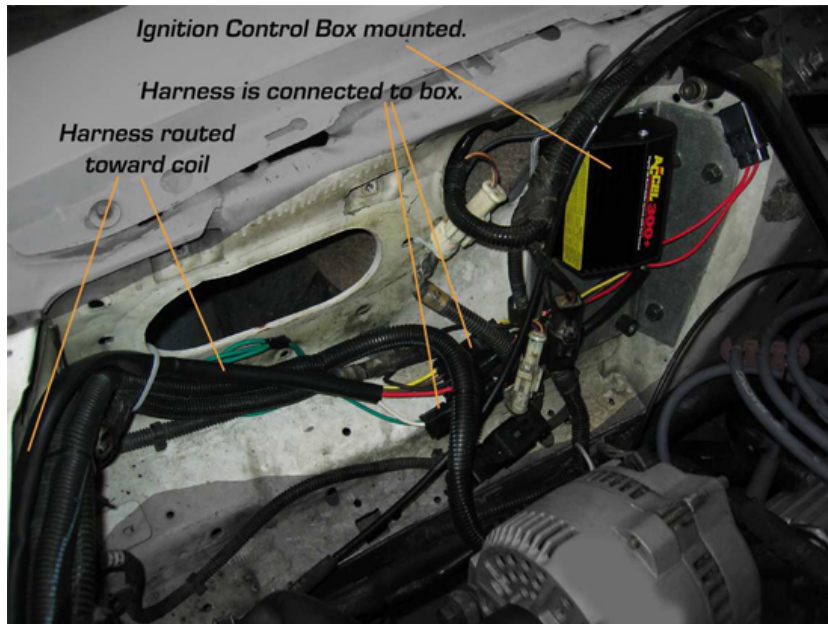

Fig7d
14. The green wire coming from the Control Box is for an aftermarket tach, if equipped. – My car does not have another tach, so I coiled this wire up and tucked it away for future use. (See: Fig7d)